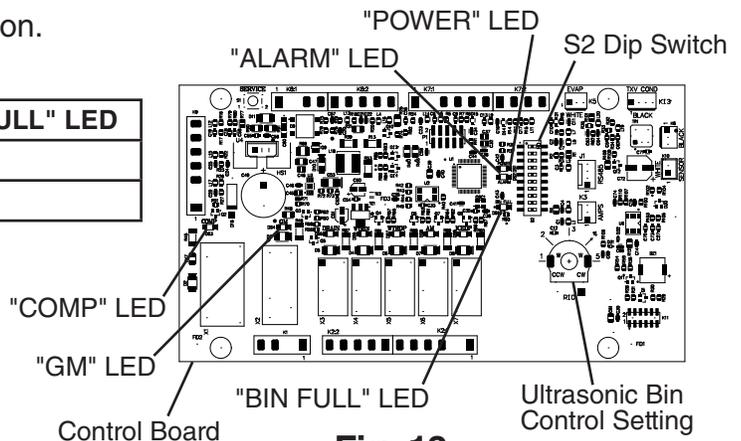

Fig. 13
- 5) Confirm the control board orange "BIN FULL" LED is off (bin empty). "POWER" LED is on. See Fig. 13.
7) Make sure the "GM" LED is on. See Fig. 13. There is a delay of at least 30 sec. before the "GM" LED turns on after power-up. After "GM" LED turns on, press the "Service" button on the control board to bypass the 5-minute compressor delay. **WARNING! Risk of electric shock. Care should be taken not to touch live terminals.** Confirm the "COMP" LED turns on.